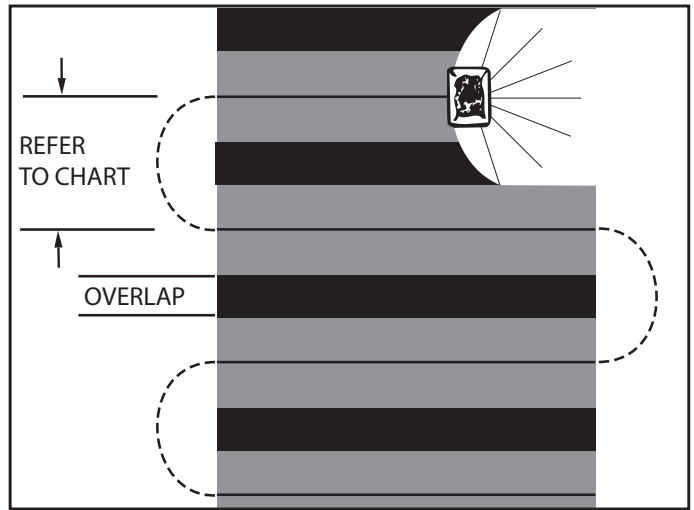

FIGURE 20
- To insure uniform coverage, make each pass so that the broadcast pattern slightly overlaps the pattern from the previous pass as shown in figure 20. The approximate broadcast widths for different materials are shown in the application chart on this page.
- Heavy moisture conditions may require a cover over the hopper to keep contents dry. The vinyl cover (AA) acts as a wind and moisture shield, but should not be used as a rain cover.